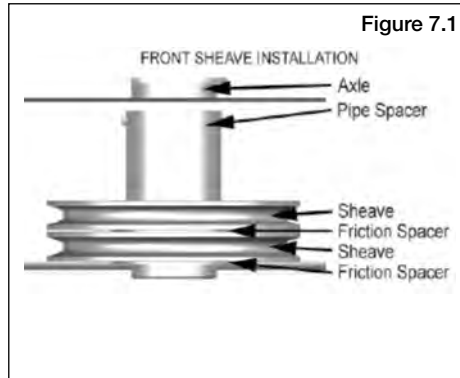

Figure 7.1
3. You must reinstall the **SHEAVES, SPACERS AND PINS** in the same order as they are removed. **Note:** Failure to install **PLASTIC FRICTION SPACERS** will result in premature sheave wear and void warranty. If cables are not installed from factory please reinstall pulleys, spacers and sheaves in the same order as removed. Failure to do so and reinstall shims (plastic or metal) can result in premature bushing failure. (See Fig. 7.1 and 7.2)